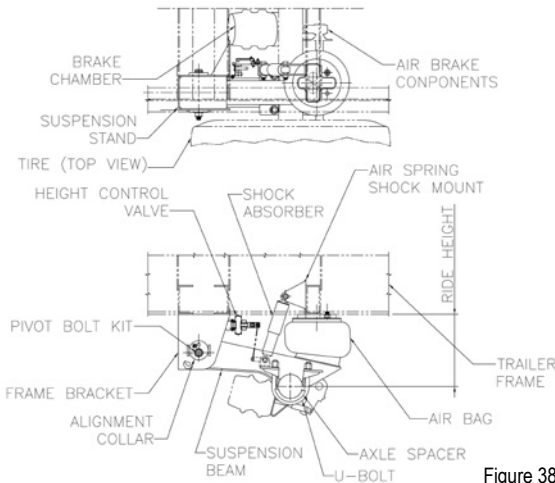

Figure 38
The 1" - 14 UNF radius rod attachment bolt should be tightened to 720 ft.-lbs. of torque. The 1/2" - 20 UNF torque arm clamp bolt should be tightened to 85 ft. lbs of torque. If excessive bushing wear is observed, then the radius rod bushing and bolt must be replaced. Failure to replace the radius rod bushing will result in damage to the hanger, spring seat and/or the radius. (Figure 38)
6.6 AIR-RIDE SUSPENSION (FIGURE 38)